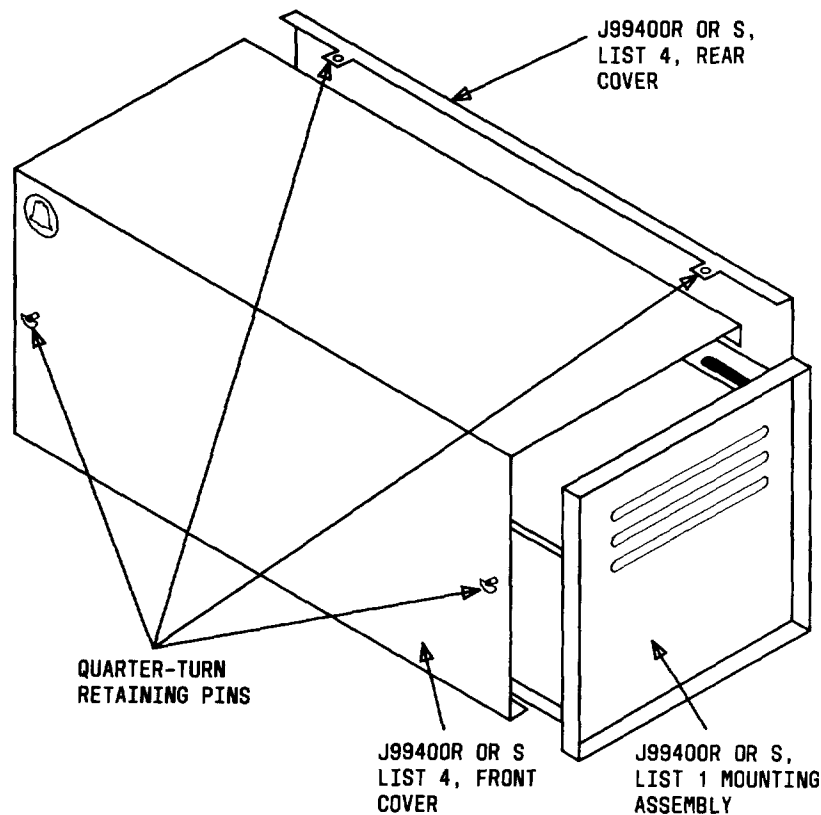

Fig. 2—J99400R and S, List 4 Cover Assembly
rear cover. The cover assembly is made of aluminum alloy and held in position by quarter-turn retainers as shown in Fig. 2. The combined front and top cover has a finish of walnut woodgrained laminated vinyl for an attractive appearance. The bottom of J99400R, List 1 mounting assembly is left open for convenient cable routing.
3.04 The J99400S, List 4 cover assembly consists of two parts: a 1-piece front and top cover and a rear cover. The cover assembly is made of aluminum alloy and held in position by two quarter-turn retainers as shown in Fig. 2. The combined front and top cover has a finish of walnut woodgrained laminated vinyl. The bottom of the J99400S, List 1 mounting assembly is left open for convenient cable routing.